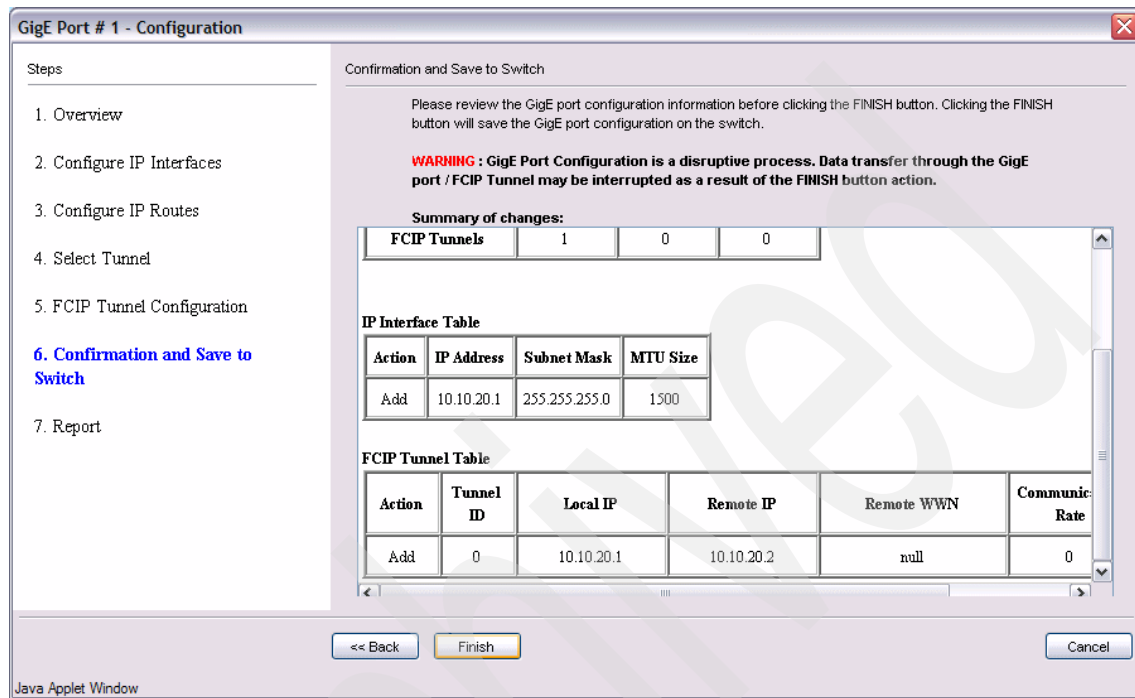

Figure 6-90 Confirm and save the configuration
- The next step is to confirm the changes and save them to the switch. You can review the configuration and go back if any corrections are necessary. Click **Finish** to save the changes to the switch (Figure 6-90).